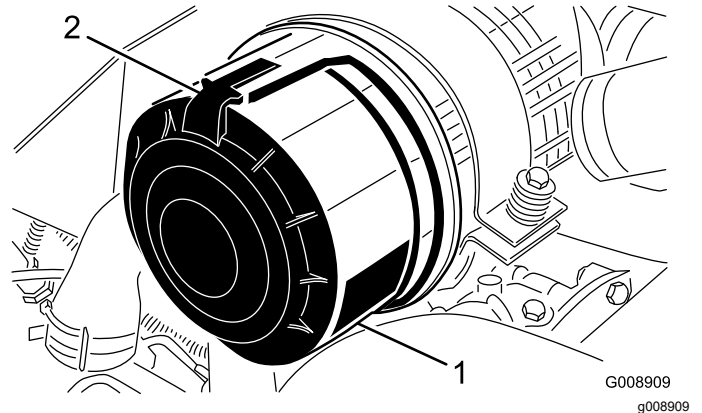

Figure 51
1. Release the latches securing the air cleaner cover to the air cleaner body (Figure 51).